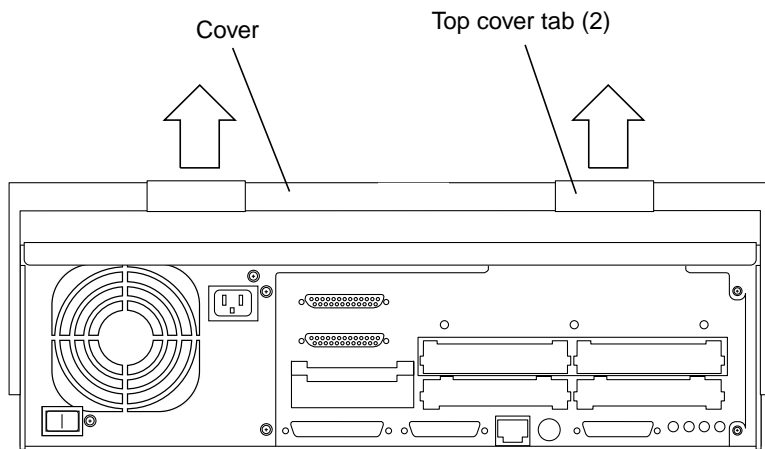

FIGURE 7-2 Removing the System Unit Cover
3. Pull the two top cover tabs to free the cover from the back panel (FIGURE 7-2).